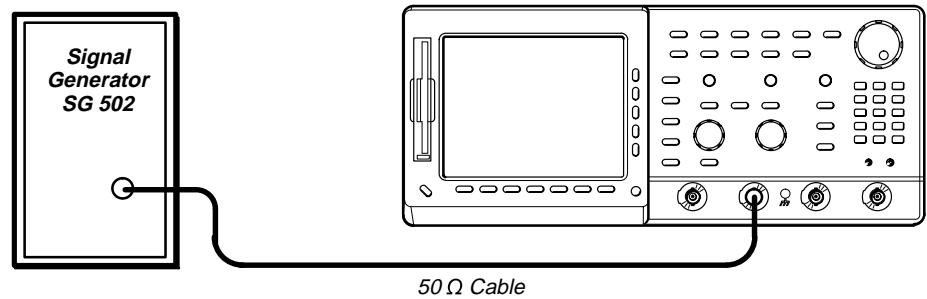

Figure 1-32: 60 Hz Rejection Test Hookup
- Connect the output of the SG 502 to the CH2 input through a 50 Ω cable (See Figure 1-32).